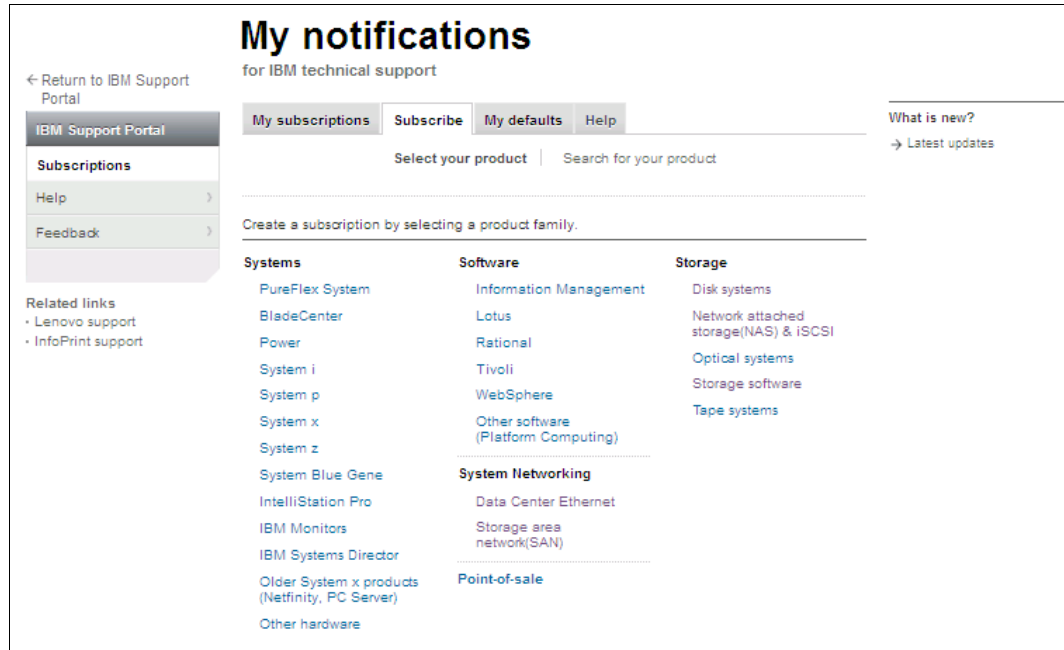

Figure A-19 My notifications - subscribe
- Select the **Subscribe** tab, and you see the list of available product types, as shown in Figure A-19.